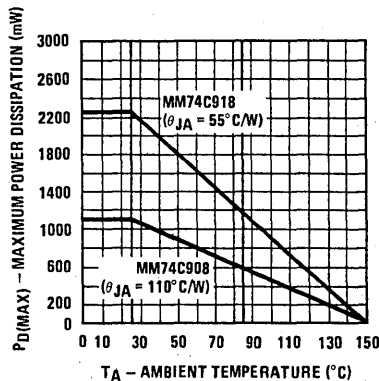

FIGURE 2. Maximum Power Dissipation vs Ambient Temperature
To assure junction temperature of 150°C or less, the on-chip power consumption must be limited to within the power handling capability of the packages. In *Figure 2*, the maximum power dissipation on-chip is shown as a function of ambient temperature for both MM74C908 and MM74C918. These curves are generated from (1) at T_j = T_j(MAX) = 150°C.